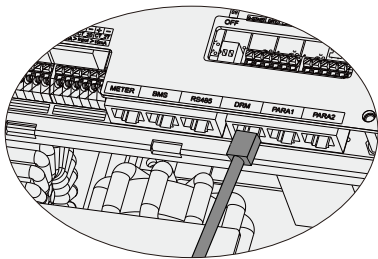

Figure 4.7-4 RJ45 interface
Step 4. Connect RJ45 terminal to the right position onto the inverter. See Figure 4.7-4